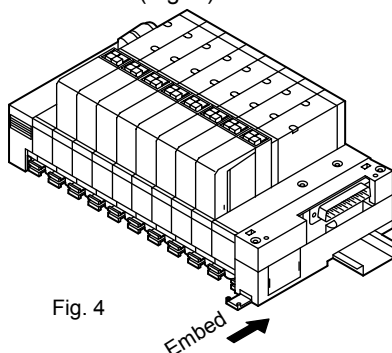

Fig. 4
- (1) Insert the body (with plate) on the end block mounting groove to mount the end block and fix together on the DIN rail.
- (2) Push in the key at the bottom of the block which prevents the unit from lifting off of the rail and fix the unit on the rail. (Fig. 4)